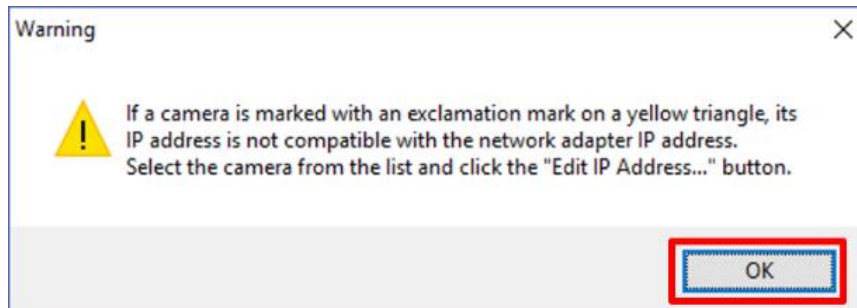

Fig. 14: IP address warning indicating incompatibility between the camera and the computer's network adapter IP address.
12) The same "Warning" message as in **Step 5)** (**Fig. 14**) may appear. If it does, click "OK". After a few seconds of reconfiguring, you will return to the "Open Cameras" window. The warning symbol should no longer be there. If so, click "Open" and a window will indicate that the software is initializing.